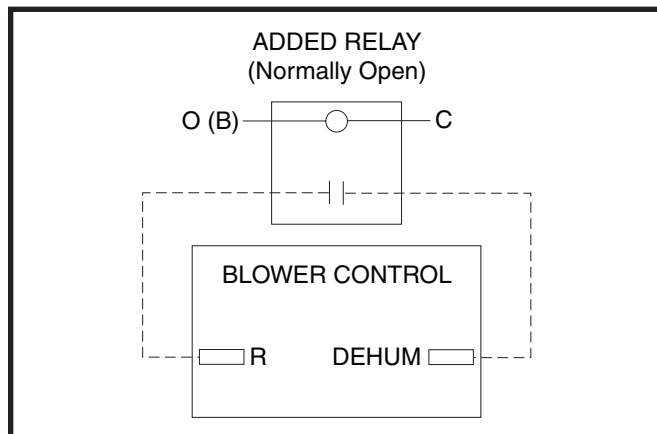

Figure 19. DHUM to Relay Wiring Configuration
- If a humidistat is not available, it is an acceptable option to connect the R & DEHUM via a field supplied normally open relay. See Figure 19 \(page 21\). The R & DEHUM terminals should be connected across the normally open relay terminals. The O (B) & C terminals should then be connected across the relay coil. This option causes the blower to run at a reduced CFM for 10 minutes after a call for cooling.